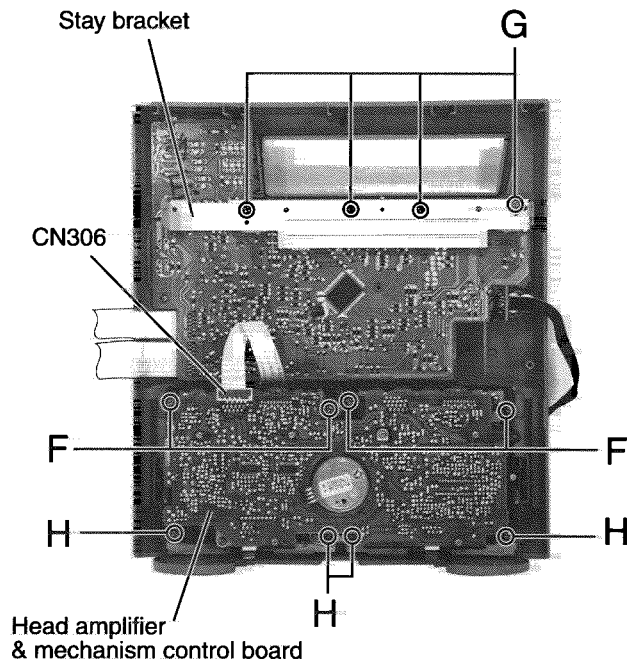

Fig.11
■ Removing the Cassette Mechanism Assembly(see Fig.11)
■ Removing Each Board of the Front Panel Assembly(see Fig.11 to 14)